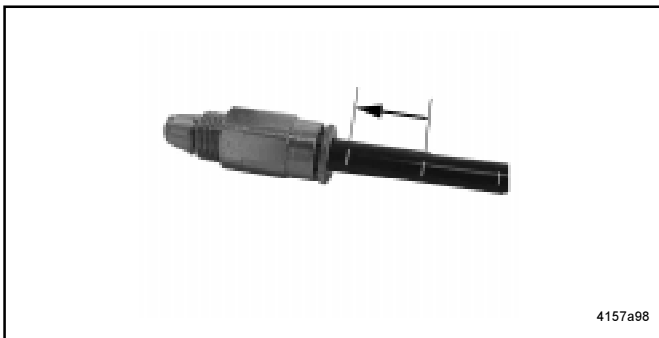

Fig. 9 - Feed line insert into the fitting up to the next white mark
- \* Cut the feed line off at one of the white lines before it is mounted (see Fig. 9).